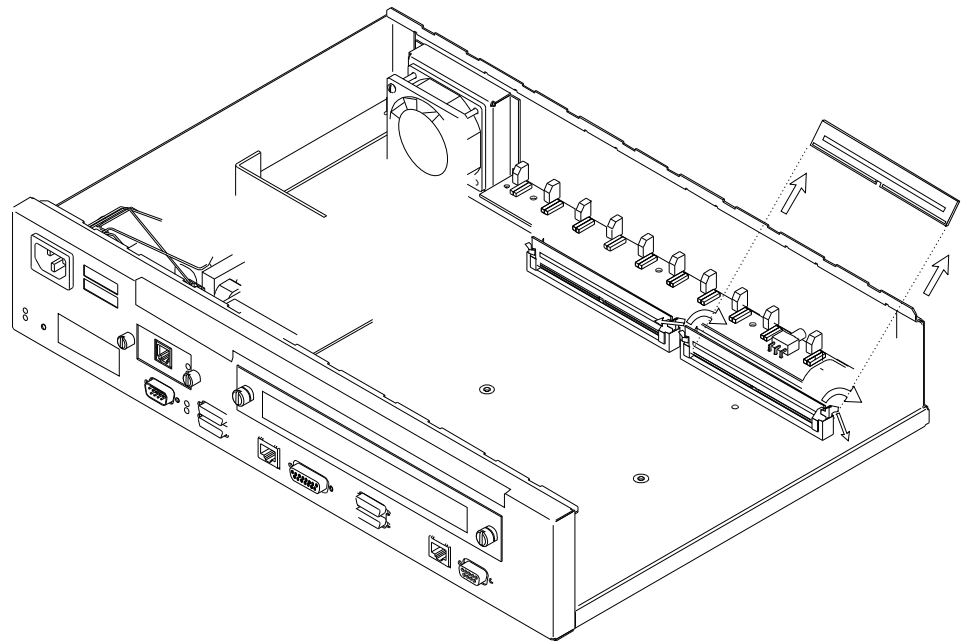

Figure 32. Removing the Flash SIMM (14T and 24x Models)
- 2** As you face the machine the DRAM SIMM is located in the left slot. To replace the DRAM SIMM you must remove the existing DRAM SIMM and install the replacement. The Flash SIMM location is shown in Figure 32 on page 33